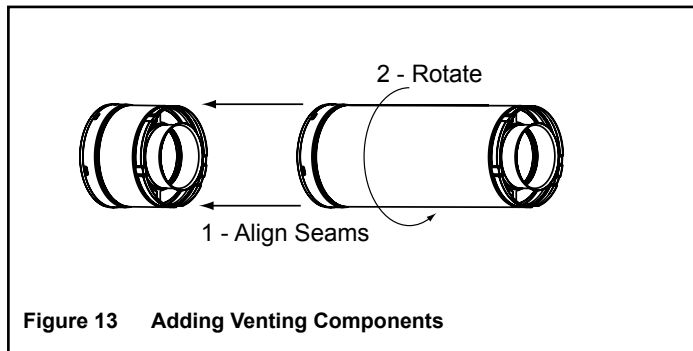

Figure 13 Adding Venting Components
**Important Notice: Align the seams of the pipe sections to allow engagement. Rotate the vent component to lock into place. Use this procedure for all vent components. See Figure 13.**
- Align the seam of the pipe and seam of collar to allow engagement. Rotate the vent component to lock into place. Use this procedure for all vent components. See Figure 13.